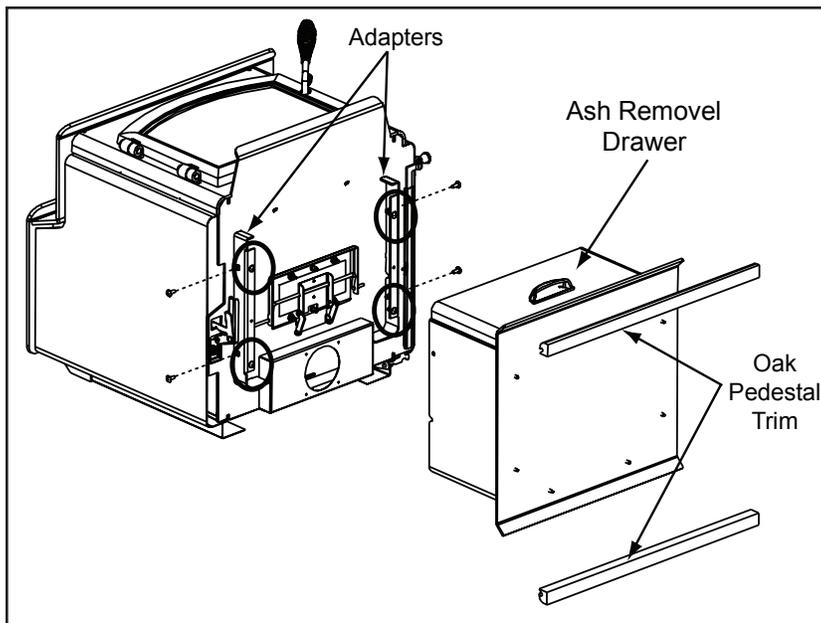

Figure 42.1
1. Slide pedestal over adapter on bottom of stove and secure with screws supplied with the kit. **Figure 42.1.**